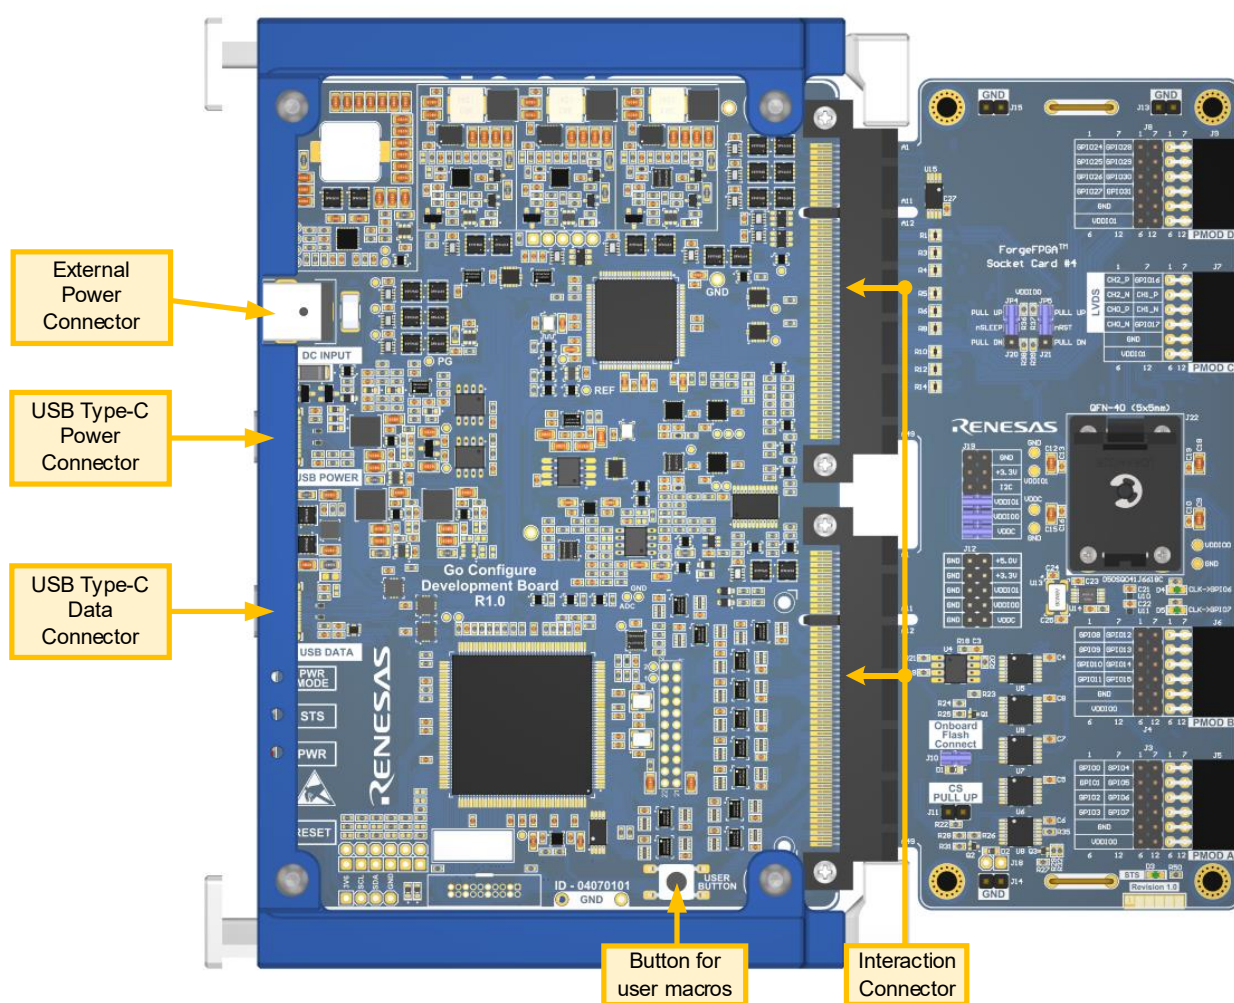

Figure 10. Development Kit
| Figure 10. Development Kit                              | 8 |
**Important:** Connect the USB cable directly to the PC. Avoid using USB hubs or docking stations. Ensure the Socket Card is properly connected to the Go Configure Development Board as shown on **Figure 10**.